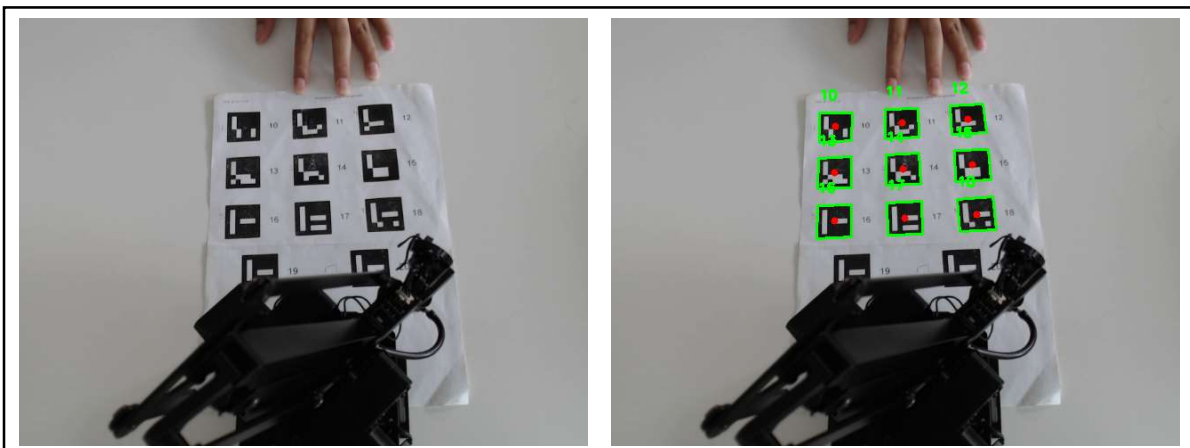

Figure 10. Marker Recognitions
11. You can see in *Figure 10* that the application can detect all the markers in the Aruco board, which means that we have already finished the camera calibration step.